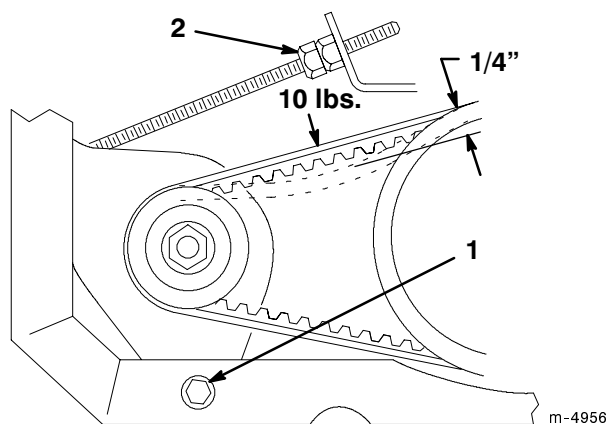

Figure 34
2. Loosen the starter generator pivot bolt (Fig. 34).
3. Adjust the jam nut on the starter rod (Fig. 34) until the belt flexes 1/4" with 10 lbs. of force.
4. Tighten the starter generator pivot bolt (Fig. 34).